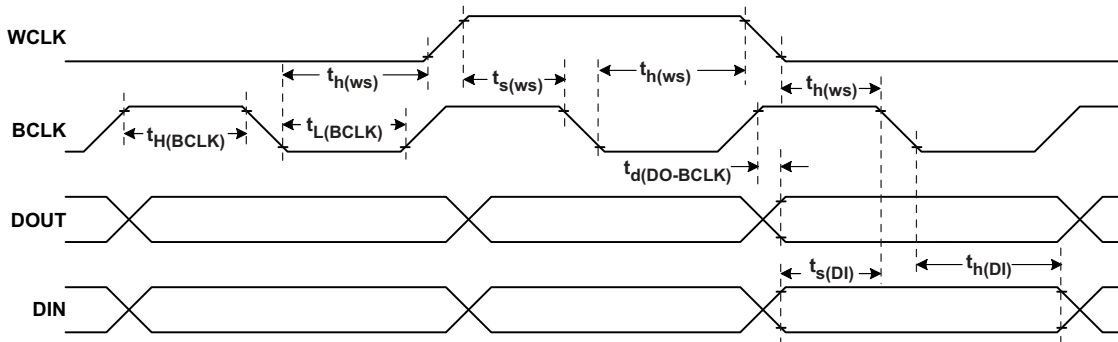

Figure 5. DSP/Mono PCM Timing in Slave Mode
### 8.15 DSP/Mono PCM Timing in Slave Mode (see Figure 5)
**DSP/Mono PCM Timing in Slave Mode (see Figure 5) (continued)**